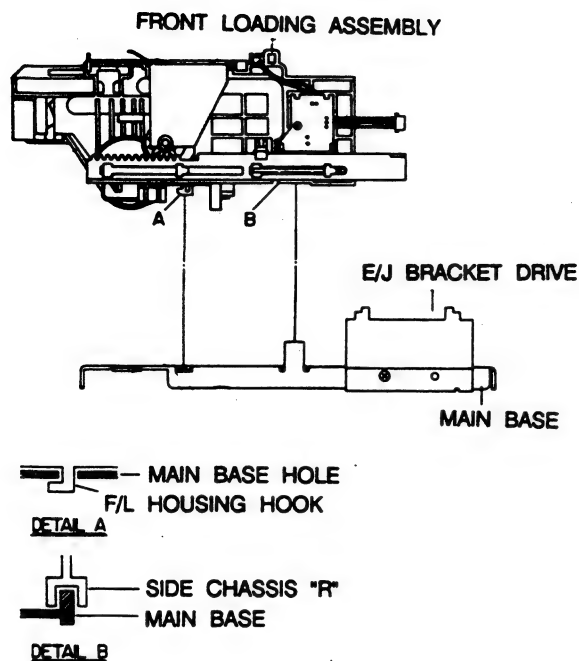

Fig. 22 Mechanism Chassis Assembly Removal
2. While holding cassette holder in the eject position, align the A and B assembly points as shown in Fig. 22.
3. Tighten two (2) screws.